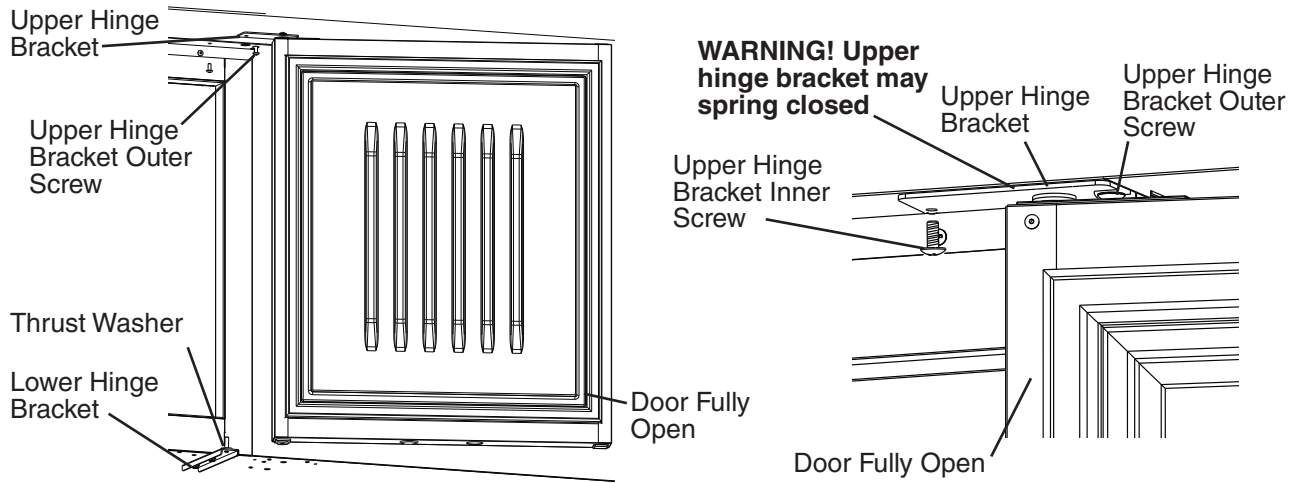

**Fig. 28**
- 16) Remove the upper hinge bracket screws from the new location and apply Loctite Threadlocker Blue 242 or 243 to the threads. Next, start the upper hinge bracket outer screw into the appliance. Rotate a few threads into the appliance; do not tighten the screw. See Fig. 28.